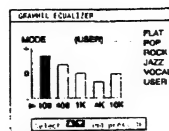

Fig. 34.
- 1 Select Sound Control in the main menu, then select Graphic Equalizer using Δ or ∇ and press OK. The GRAPHIC EQUALIZER menu appears (see Fig. 34).